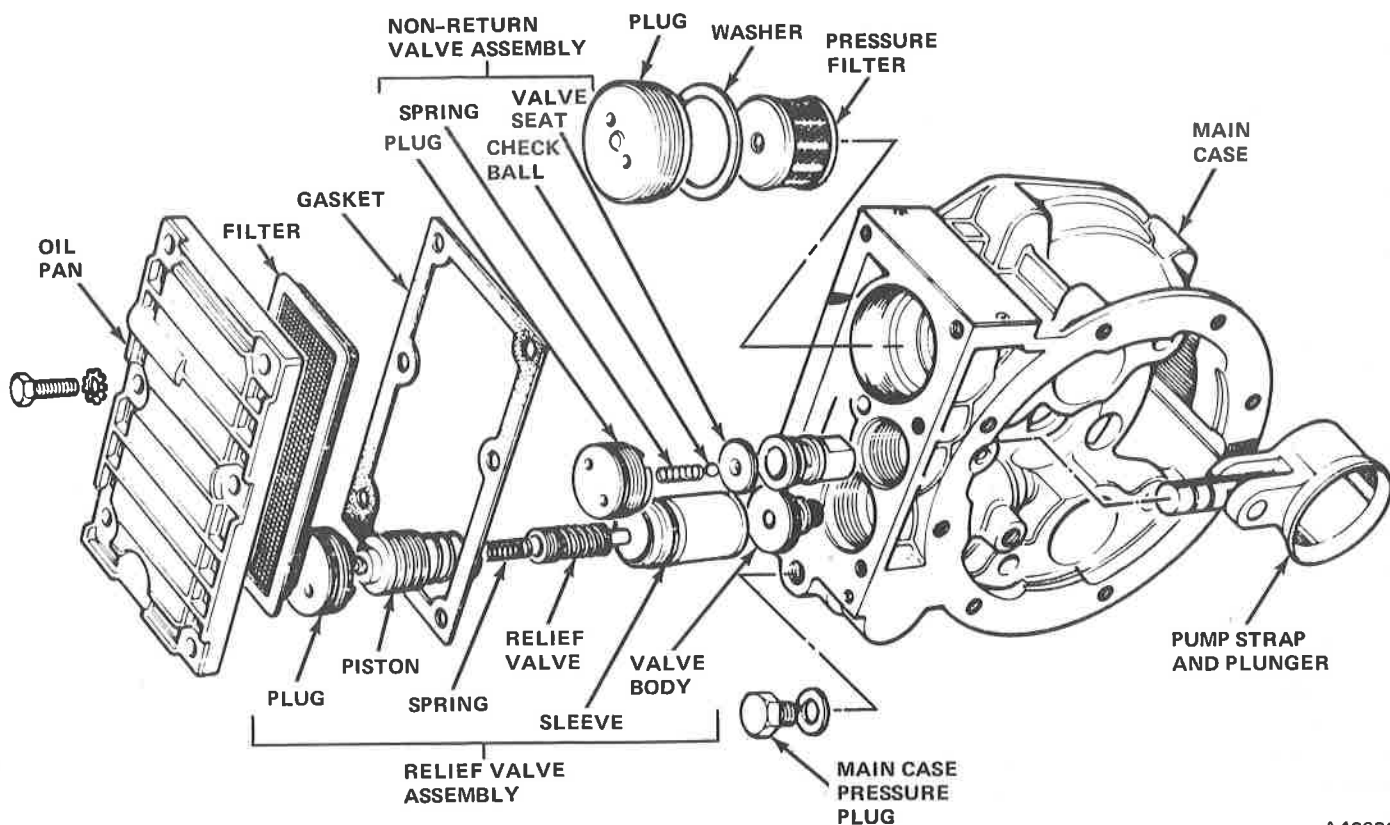

Fig. 6-38 Main Case Components
- (4) Remove relief valve piston, relief valve residual pressure spring, and relief valve and spring assembly (fig. 6-38).
- (1) Raise car on hoist.
- (2) Remove oil pan, oil pan gasket, and oil pan filter.
- (3) Remove pressure filter plug with Tool J-25305. Pressure filter and aluminum washer will come out with plug (fig. 6-38).
- (4) Thoroughly clean pressure filter and oil pan filter with gasoline or kerosene. Use reduced pressure compressed air to dry filters or place filters on clean, lint-free shop cloth to drain until dry. If either filter is torn, split, or so severely plugged that it cannot be cleaned, replace the filter.
- (5) Install new aluminum washer on pressure filter plug.
- (6) Position pressure filter in plug and install assembled filter, washer, and plug. Tighten plug to 14 to 18 foot-pounds torque with Tool J-25305.
- (7) Install oil pan, oil pan gasket and oil pan filter. Tighten oil pan bolts to 6 foot-pounds.
- (8) Add lubricant, as required, to transmission and lower car. Operate overdrive, recheck fluid level, and correct if necessary.